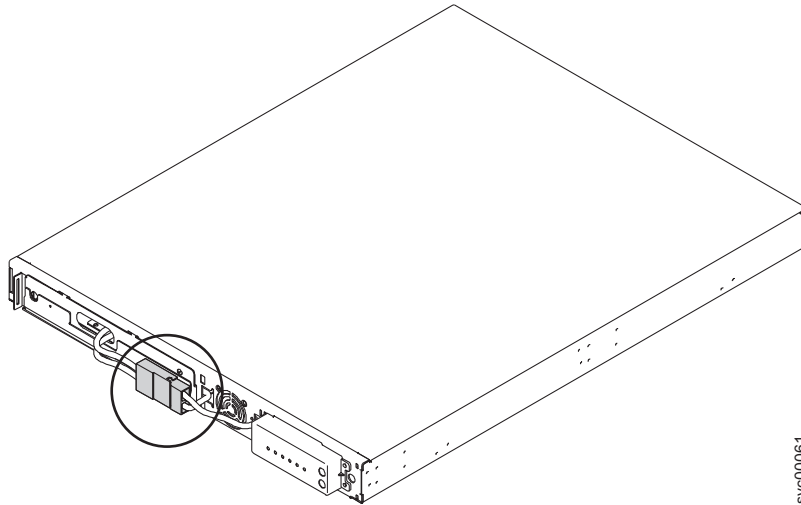

Figure 229. The 2145 UPS-1U internal-battery connector
6. Disconnect the internal battery connector, which is circled in Figure 229 on page 245.